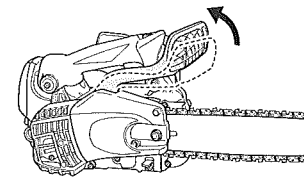

Fig. 17
9. Make sure chain brake is disengaged. (Fig. 17) Allow the engine about 2-3 minutes to warm up before subjecting it to any load. Do not run the engine at high speed without the load to shorten the longevity of the engine.